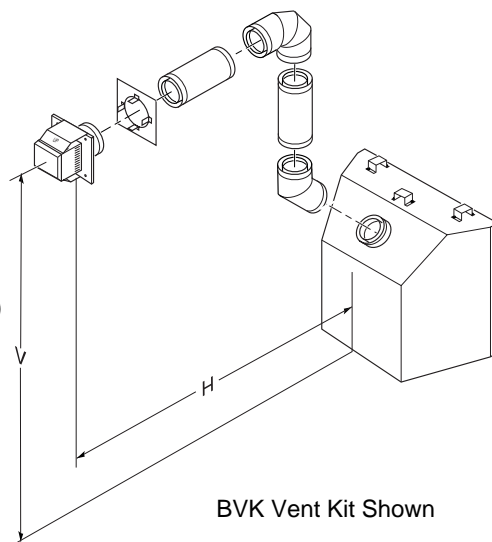

Figure 17 - Horizontal Termination Configuration for Rigid Venting Using One 90° Elbow
See information in Figures 17 and 18 for Vertical (V) and Horizontal (H) maximums and minimums. The same amounts apply for flexible venting.